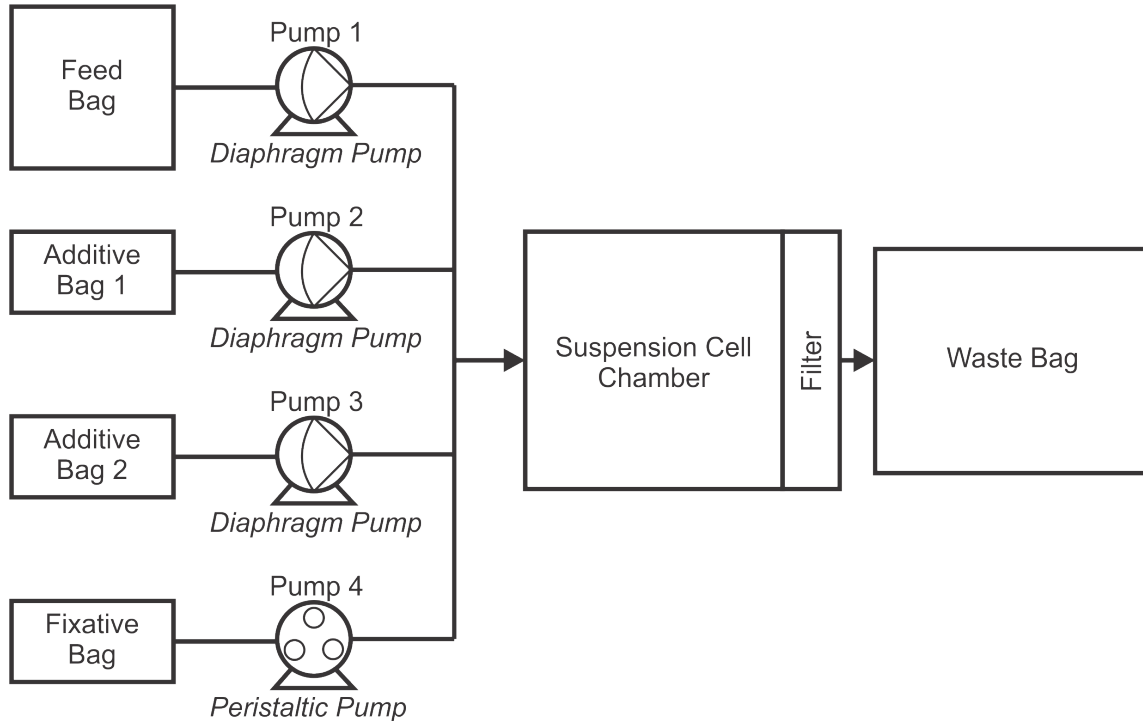

Figure 3 – Simplified schematic of the fluidics
1.3.2 A simplified schematic of the fluidics is shown in Figure 3. There are four supply bags (left) that have independent pumps to run fluid into the Suspension Cell Chamber. The cell chamber is a fixed volume so excess fluid is pushed into the waste bag (right).